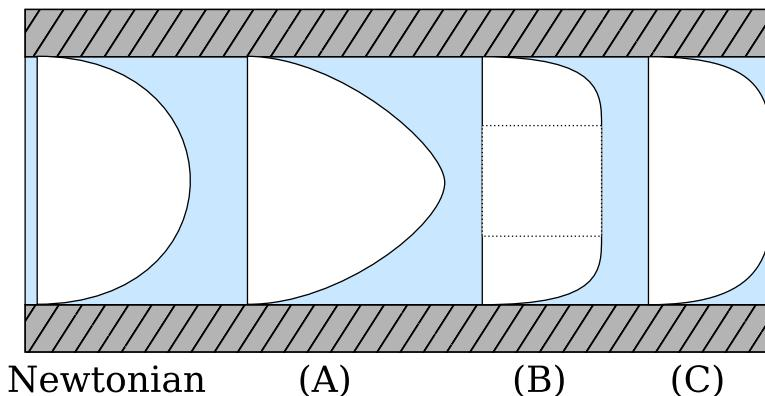

Figure 27: Non-newtonian flow profiles compared against the newtonian flow profile.
- In Fig. 27, which profile corresponds to a shear thinning fluid? [2 marks]
- In Fig. 27, which profile corresponds to a viscoplastic fluid? [2 marks]
- Which profile in Fig. 27 corresponds to a shear thickening fluid? [2 marks]
- Which profile in Fig. 27 corresponds to a Bingham-plastic fluid? [2 marks]
- Which fluid types illustrated using the flow profiles in Fig. 27 cannot be fitted using a power-law model? [2 marks]